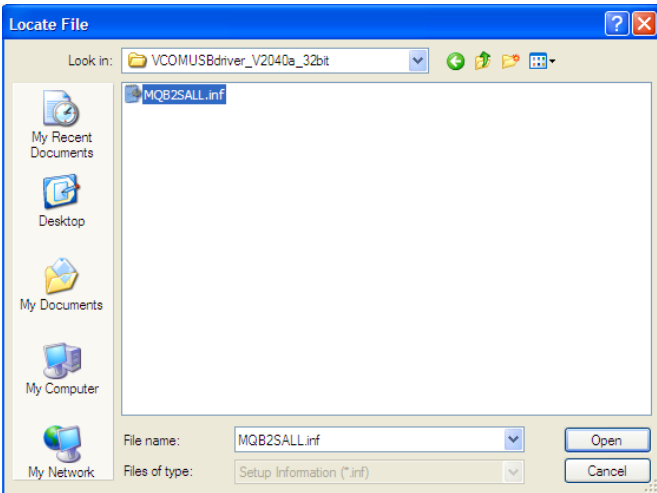

Figure 7. Open Hardware Driver
8. Find *MQB2SALL.inf* in *VCOMUSBdriver\_V2040a\_32bit* or *VCOMUSBdriver\_V2040a\_64bit* according to your PC OS, select it and click *Open* (See Figure 7).